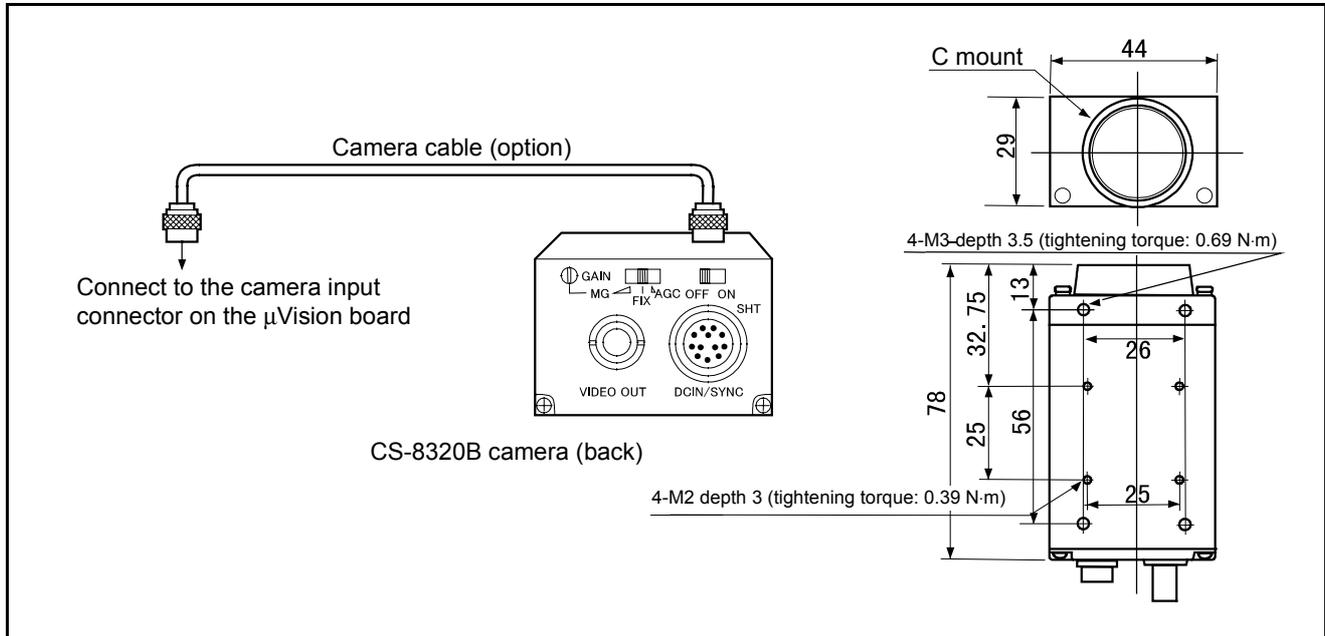

Figure 3-14 Camera Dimensions and its Parts Names
- (1) When mounting the camera to the equipment, tighten the screws securely to the specified torque. See Figure 3-14.
- (2) Do not apply a strong impact or vibration to the camera. A failure may result.
- (3) When opening the camera top cover and changing the settings, be sure to turn the controller power off or disconnect the camera cable.
- (4) For setting up cameras, refer to the instruction manual that comes with the camera.